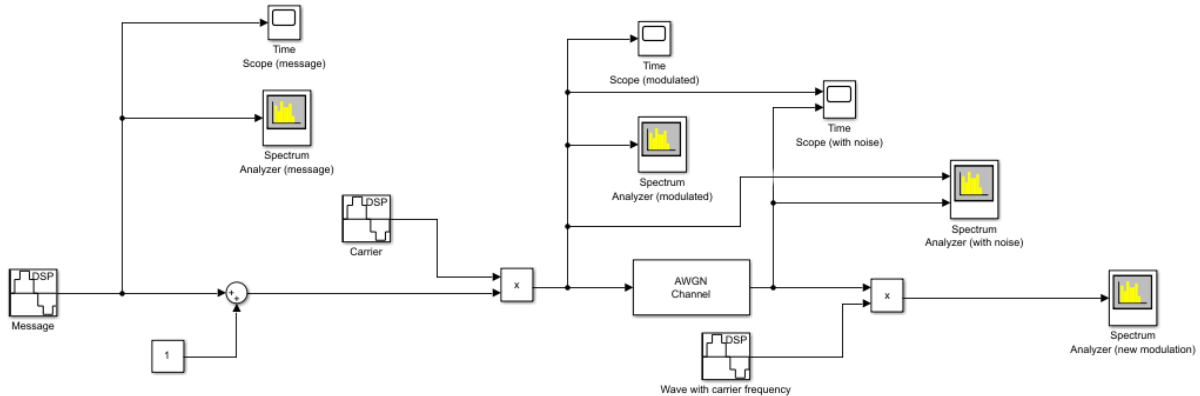

Figure 24: Amplitude demodulator with scope & spectrum analyzer
2. Add another Product block to multiply the signal leaving the AWGN Channel block with the sine wave from the previous step. Your model should now look like the model in Figure 24.